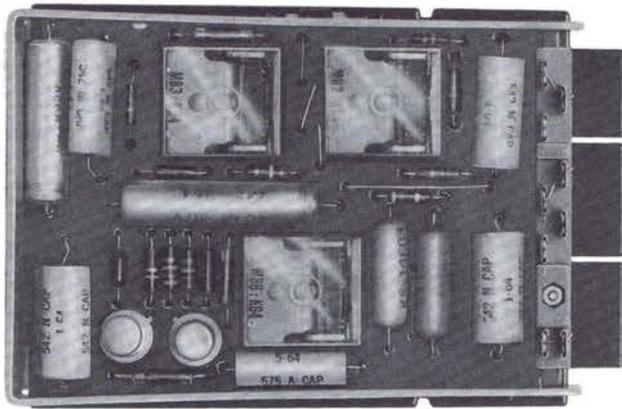

Fig. 1 — 400B Key Telephone Unit
2.06 The 400A and B KTUs (Fig. 1) are identical units with the exception of an additional diode (CR4) connected on the 400B KTU. This diode serves to prevent a system from falsely indicating an incoming call at a station following a momentary power interruption.
4.01 The printed circuit wiring extends to the contacts of the KTUs, which are on one side of the circuit board along the plug-end (Fig. 1, 2, and 3). See Table C for lead designations.